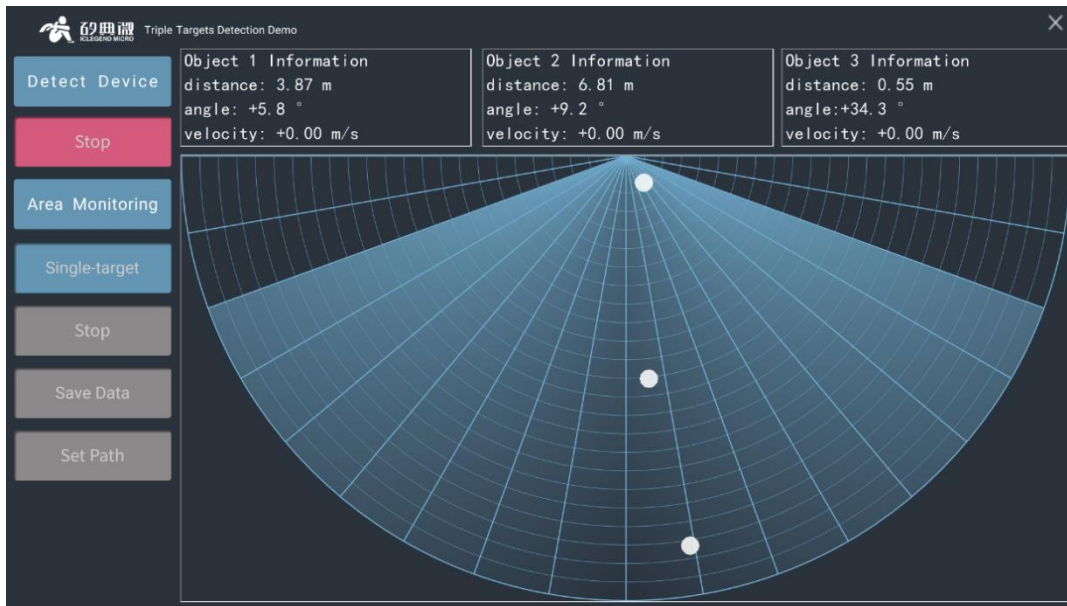

Figure 4-8 Example of triple-target detection demonstration
Step 4(Optional): By default, the software works in Single Target Detection mode, to switch to Multiple Target Detection mode, click the **Multi-target /Single-target** toggle button, the Triple Targets Detection Demo2 will appear, as shown in Figure 4-8; to switch back to Single Target Detection Mode3, click the **Multi-target /Single-target** toggle button again.